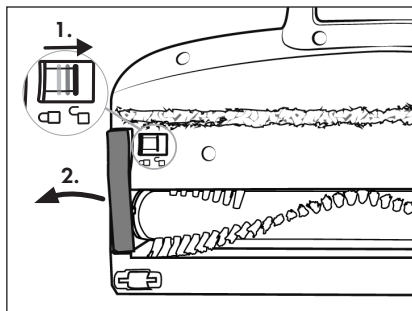

Fig. 24
- Clean the rotary brush (21) regularly to ensure proper operation of the appliance and avoid malfunctions.
- 1) Remove the floor brush (22) from the suction pipe (24) or from the appliance (see section **Dismantling the appliance**). Turn the floor brush (22) upside down.
- 2) Unlock the rotary brush (21) by sliding the rotary brush release (19) with your finger towards the symbol  (open). Remove the rotary brush holder (20) from the floor brush (22) (see Fig. 24).